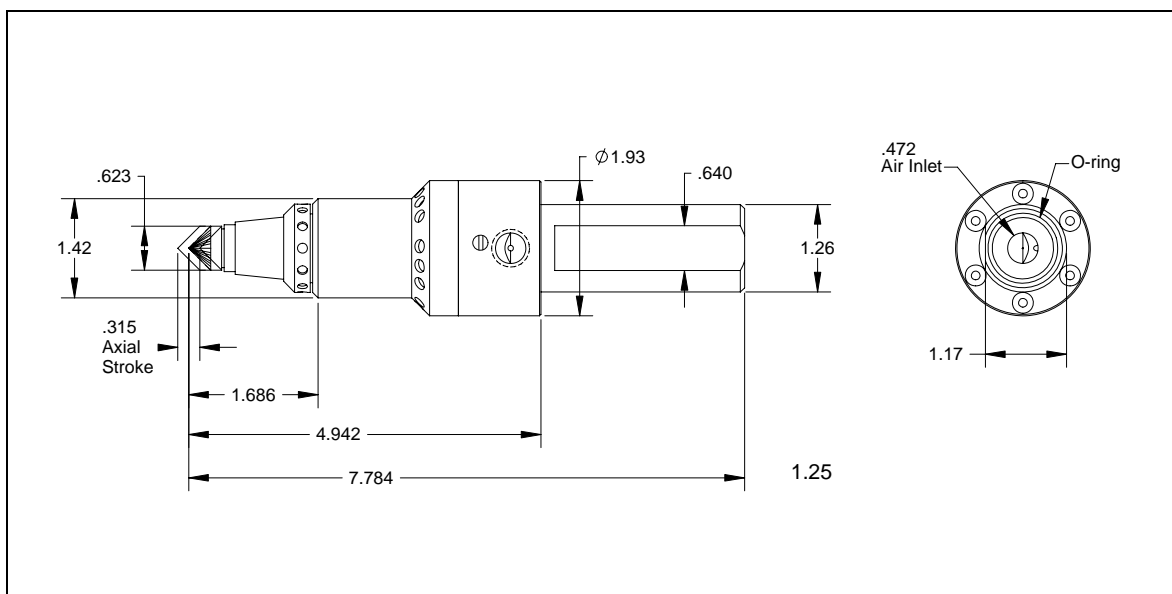

Figure 5.1—TCP Dimensions
7.6 Tool Center Point (TCP) Position (See Figure 5.1)